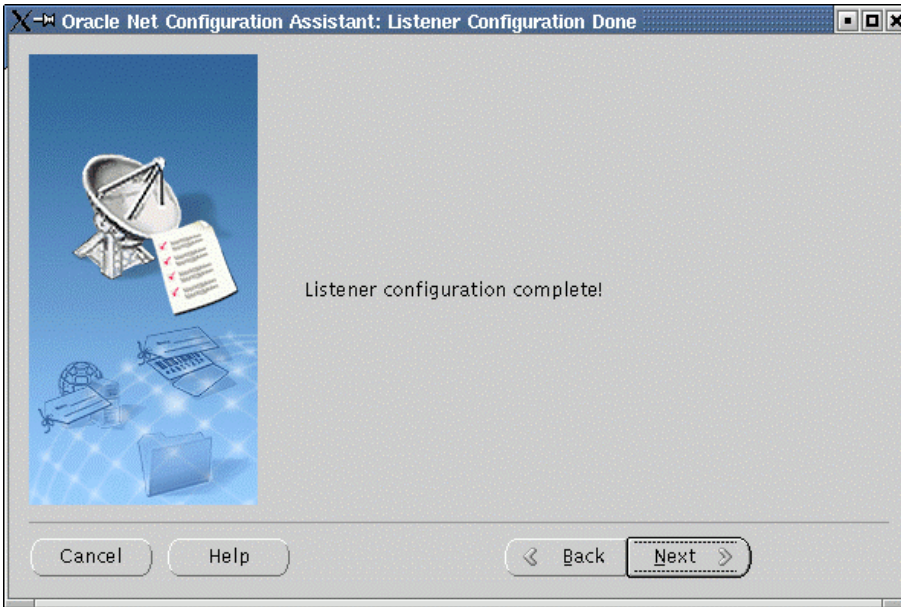

Figure 75. netca - completion
- Click **Next** on the next screen (Figure 75) to complete Listener Configuration.